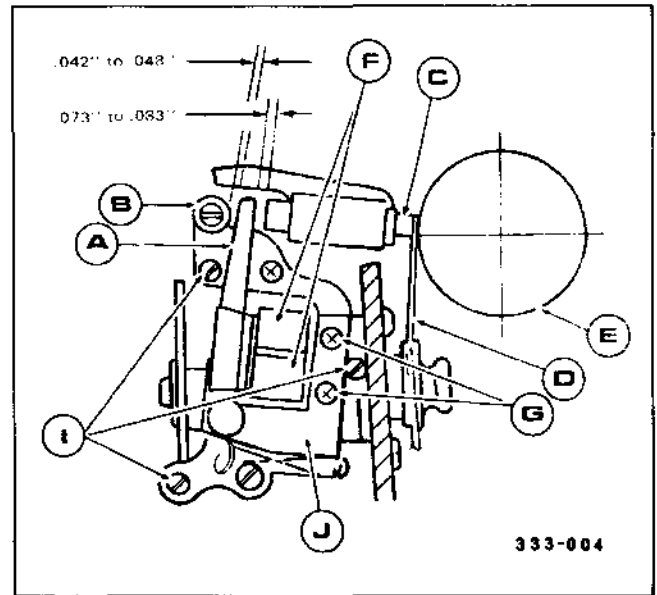

Figure 3-28. Hammer Adjustments
**3.4.1.4.6 Hammer.** There are two hammer adjustments: hammer coil position and armature stop eccentric. These adjustments are simplified when tool no. 40796 is used, but they can be performed without it if necessary. Refer to Figures 3-28 and 3-29.